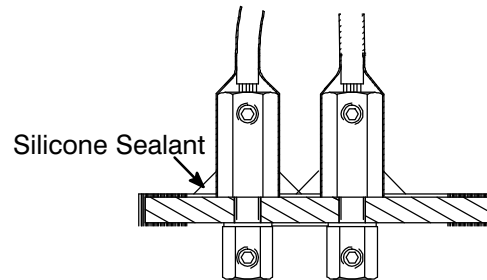
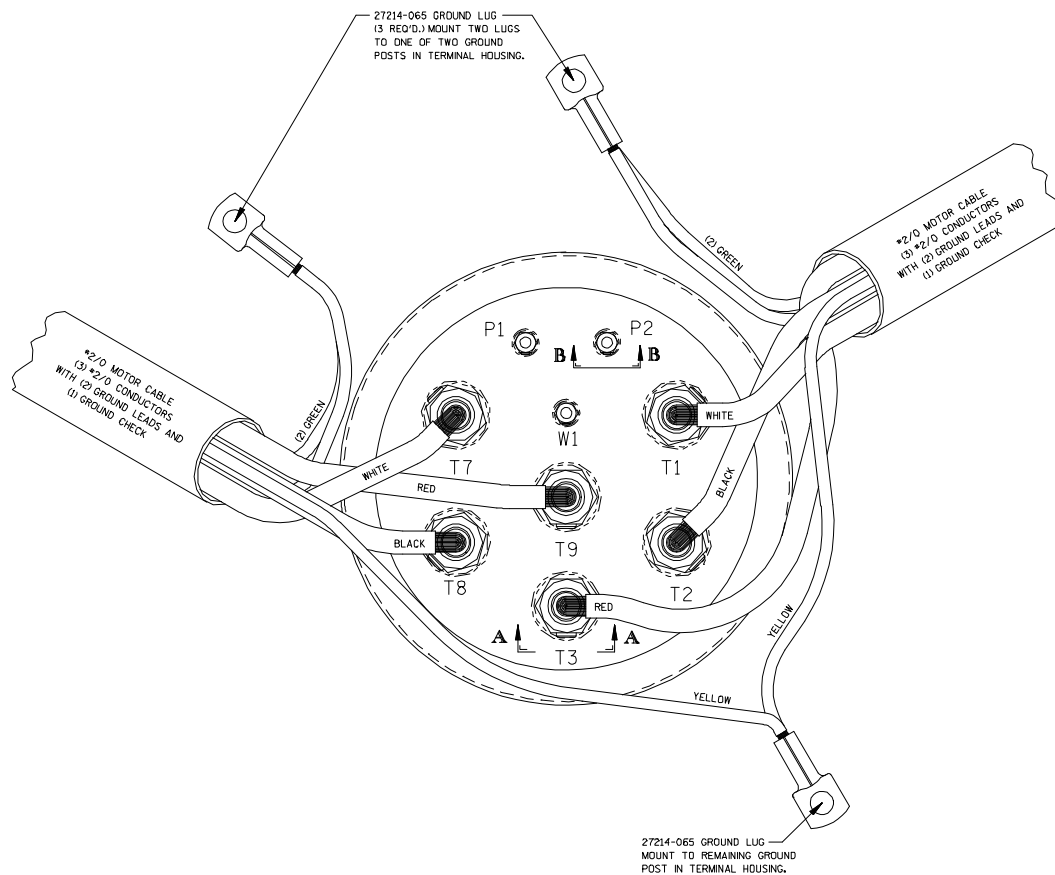

Figure E-8. Silicone Adhesive Sealing
Figure E-9. Terminal Housing Wiring Connections
Slide a length of heat-shrink tubing (12) up over each of the power cable leads. Install the leads on the terminal posts as shown in Figure E-8 and secure them using the hex head nuts (4). Slide the tubing down each lead until the terminals are covered and the tubing contacts the terminal plate. The tubing **must** extend up the leads far enough to ensure a good seal.
See Figure E-9 and check terminal locations. Apply a 1/4 to 3/8 in. (6,4 to 9,7 mm) thick layer (maximum) of silicone adhesive around each of the terminal posts as shown in Figure E-8. Remove any adhesive from gasketed surfaces.
After the terminal plate has been sealed, slide the terminal housing down the cables. Untape the ground leads. Refer to Figure E-9 and connect the green ground leads to two of the terminals (9), connect the yellow ground check leads to the third terminal, and secure them to the ground terminals with the hardware (10 and 11). **Be sure** the leads make good contact with the housing.